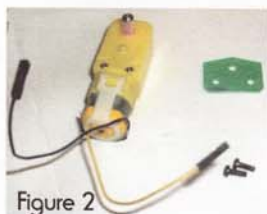

Figure 2
From the diagram in Figure 2, place the Striker plate (8) together with screws in position as shown.